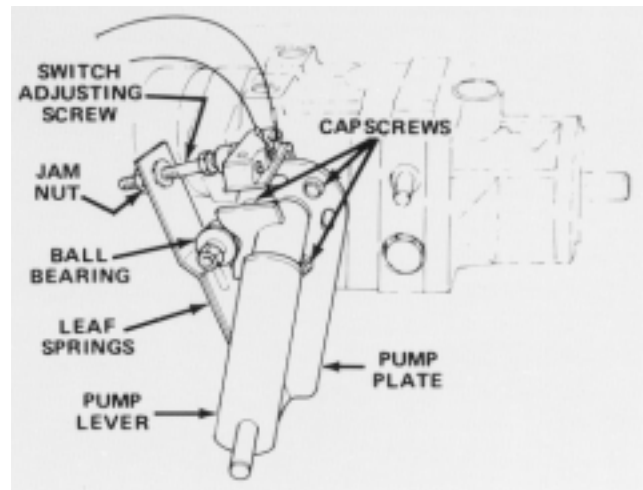

Figure 40
1. Park vehicle on a level surface and turn engine off. Apply the parking brake, tip seat forward, and actuate pump lever (Fig. 40) to insure assembly is properly seated and operating freely. Correct any discrepancy.
6. Because the wheel is rotating, the pump plate must be adjusted. But before adjusting the pump plate, move throttle to SLOW. If wheel is rotating forward, loosen capscrews, and lightly tap bottom of pump plate counterclockwise (Fig. 40). By contrast, tap pump plate clockwise if wheel is rotating backward (Fig. 40). When wheel stops rotating, tighten capscrews holding pump plate against side of transmission. Verify the adjustment with throttle in SLOW and FAST position.
- A. Ball bearing is loose or worn out (Fig. 40).
- F. Weak or damaged leaf springs (Fig. 40). Replace.
- 2. Actuate the pump lever (Fig. 40) to insure all parts are operating freely and seated properly.
- 3. Loosen jam nut. Rotate switch adjusting screw (Fig. 40) until there is a gap between head of screw and switch button.